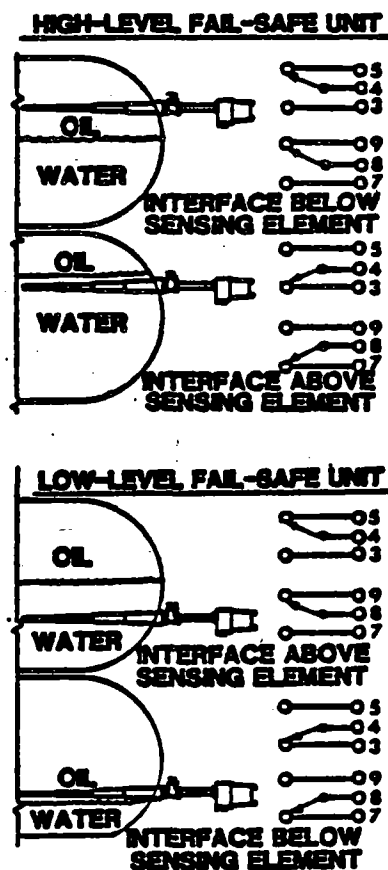

Fig. 4-3
C. Relay operation may generally be heard as an audible click when the background noise is not too high. Use one of the methods shown in Figure 4-3 to determine if the relay contacts are switching.
D. Difficulty in calibration can often be traced to improper wiring of the relay terminals to an annunciator or other panel device. Check the wiring against the relay chart in Figure 4-3. Be sure to use the diagram for the fail-safe in which the instrument is connected.